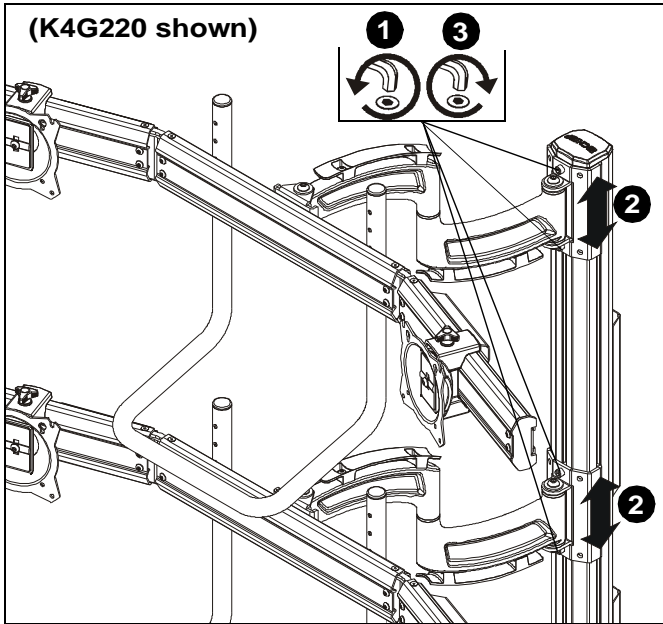

Figure 13
1. Loosen socket head cap screws holding column arm to column. (See Figure 13)
2. Adjust column arm to desired height. (See Figure 13)
3. Tighten socket head cap screws to lock column arm's position. (See Figure 13)